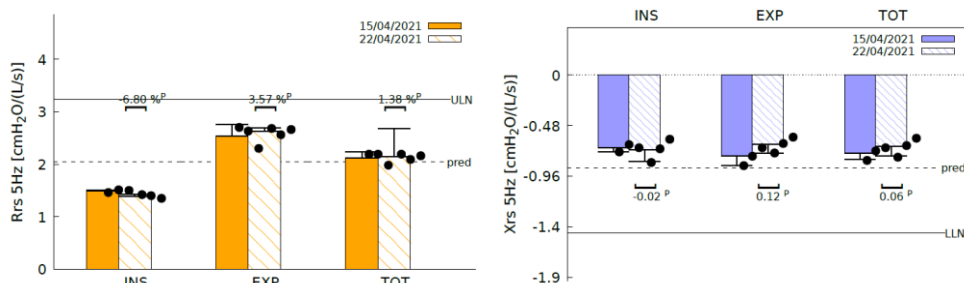
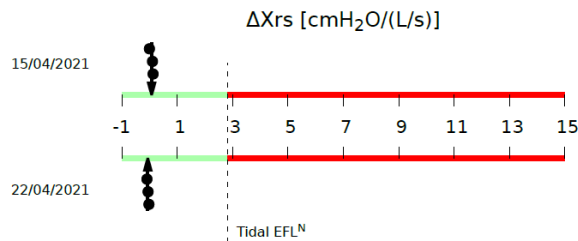
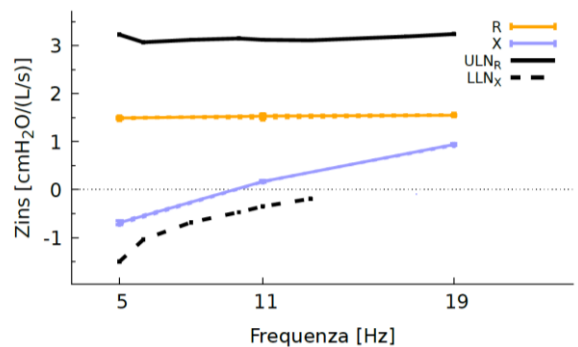

Figure 77 - Bars for resistance and reactance
Figure 78 -Expiratory Flow Limitation (EFL) during tidal breathing
Figure 79 - Inspiratory resistance and reactance spectra
Refer to Figure 77.
- Bars on the left chart of Figure 77 represent the mean and standard deviation of inspiratory (INSP), expiratory (EXP) and total (TOT) resistance calculated from the selected single measurements within a measurement session (see section *Performing a measurement session*).
- If you used a 5 Hz stimulating waveform, an additional graph on the bottom of the page is displayed (Figure 78). This graph shows as an arrow the mean and standard deviation of ΔX_{rs} calculated over all the measurements of the session. Black dots represent the mean ΔX_{rs} of individual measurements results. ΔX_{rs} is the difference between the mean inspiratory and the mean expiratory reactance and it is an index of expiratory flow limitation (EFL) during tidal breathing (Dellacà et al., ERJ, 2004). A threshold of 2.81 cmH₂O/(L/s) is used to classify a patient as flow limited or non-flow limited during tidal breathing (Dellacà et al., ERJ, 2004). If such arrow is in the green part of the graph the patient has no flow limitation during tidal breathing. An arrow in the red part of the graph indicates the presence of EFL.
In addition to the charts reported when a single frequency stimulating waveform is used (Figure 77 and Figure 78) where data are the resistance and reactance at 5Hz), a new chart with values of resistance (orange solid line) and inspiratory reactance (blue solid line) at the frequencies of the stimulating waveform is reported at the bottom of the page (Figure 79). Shown values may refer to the inspiration, expiration or whole breath depending by your selection on the results screen before the exportation (see also section *Performing a new measurement session*). The default setting is inspiration.